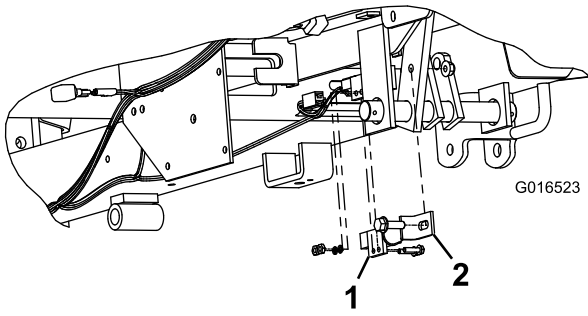

Figure 3
2. Install the brake light switch bracket to the machine frame (Figure 3).
3. Install the brake light switch to the bracket with 2 screws, 2 washers, and 2 hex nuts on the machine (Figure 3).